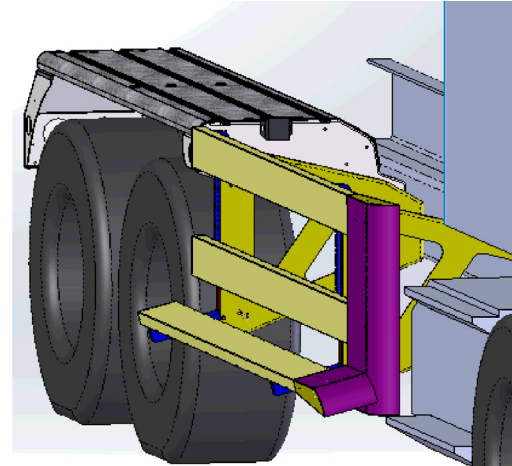

Figure 139
3. Install each pin through the open holes in each bottom rail and gusset (Figure 139).